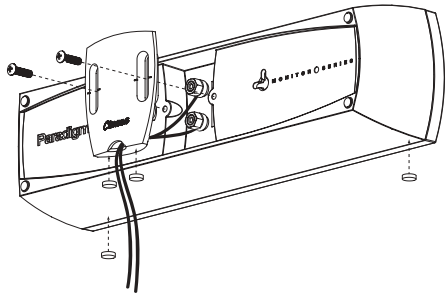

Fig. 3
If you are placing a Cinema™ “C” speaker on top of a TV or shelf, you must use the Adjustable TV-Top/Shelf Support included (Fig. 3). Installation is as follows:
3. Apply self-adhesive rubber pads (included) as shown in Fig. 3.